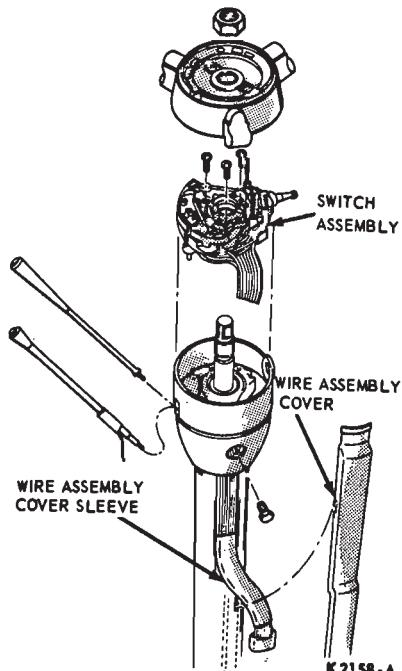

FIG. 3—Turn Signal/Emergency Flasher Switch Removal—Falcon
4. Pry the wire cover (Fig. 3) from the steering column. Disconnect the